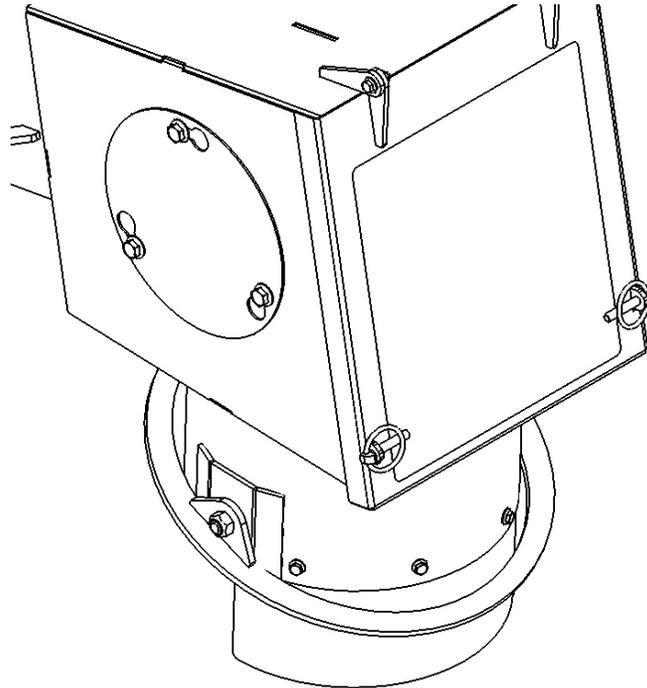

Fig. 43.1
Locate the swing hopper swivel ring (30027A). Install the swing hopper swivel ring on the discharge head of the swing tube. Fasten the ring as shown in fig. 43.1 using (2) 1/2" x 5/8" shoulder bolt & 1/2" top lock nuts.